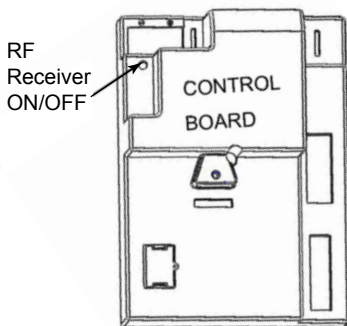

Figure 46 - Control Board
1. The RF receiver button on the control board in the fireplace must be in the on position before the learn function can begin. Figure 46. With the Command Center master switch in the ON position, use paper clip to depress the recessed button on Control Board, one beep for RF receiver ON or two beeps for RF receiver OFF.